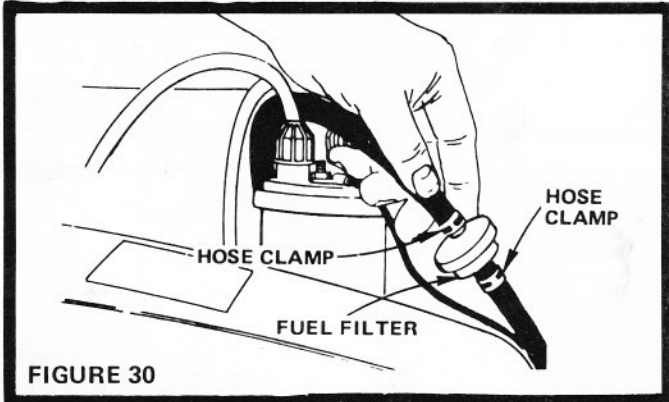

FIGURE 30
- With Engine cool, remove and plug Fuel Line Sections as removed from both ends of Fuel Filter (Fig. 30).